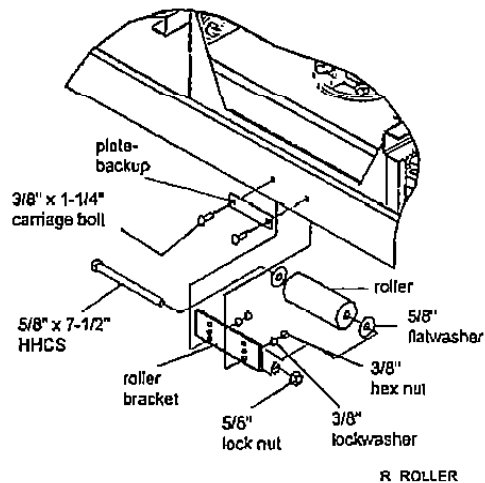

Figure 21
**Optional Rear Roller Installation (Side Discharge Only) (Figure 21)**